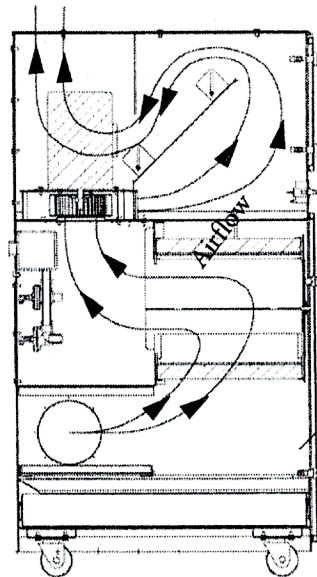

Figure 2
1.1 Operational Explanation (See Figure 2)